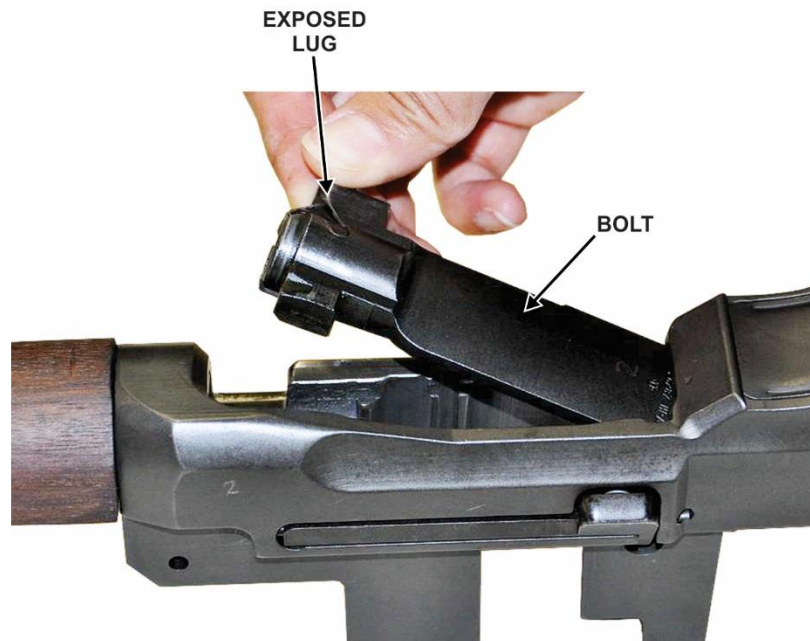

Figure 23. Bolt removal by exposed lug
- 7) From the shooter's perspective, grasp the bolt on the exposed lug and slide the bolt forward while lifting it upward and outward with a rotating motion (fig 23).